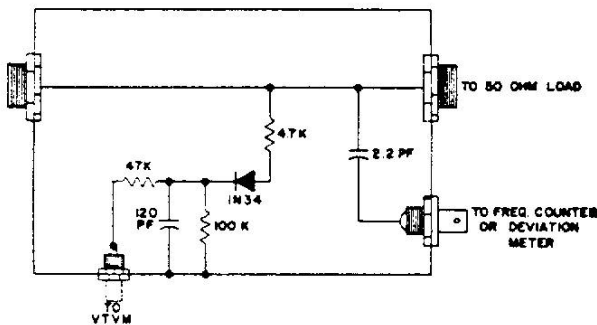

Figure 4-4. Relative Output Indicator
- a) Power Meter: 50-watts @ 175 MHz, or relative output indicating device (Figure 4-4).
1. Attach a 50-ohm dummy load to the transceiver RF - output connector through a power meter or relative output indicating device (Figure 4-4).